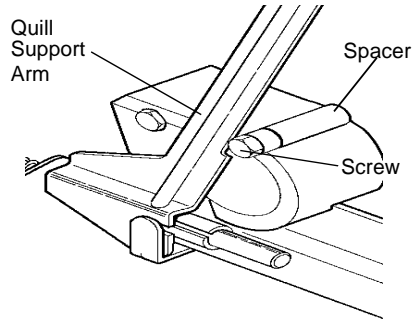
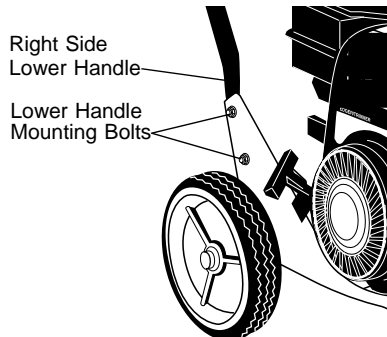

FIG. 7-ASSY
FIG. 8-ASSY
- If it is difficult to get the clutch lever into NEUTRAL, it may be necessary to loosen the four screws and nuts holding the lower handles to the frame as shown in **Fig. 8-ASSY**. Pry up (forward) on the handles only enough to allow the clutch lever to freely enter the NEUTRAL position. Re-tighten nuts and screws. When the clutch lever is in NEUTRAL the quill support arm should be close to the spacer and screw behind it as shown in **Fig. 7-ASSY**.